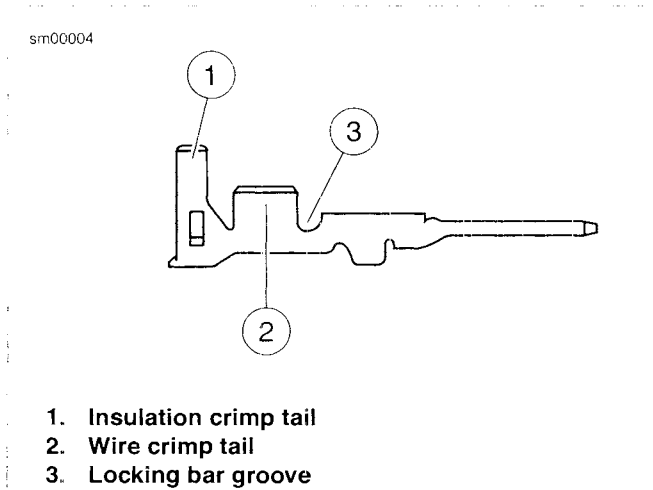
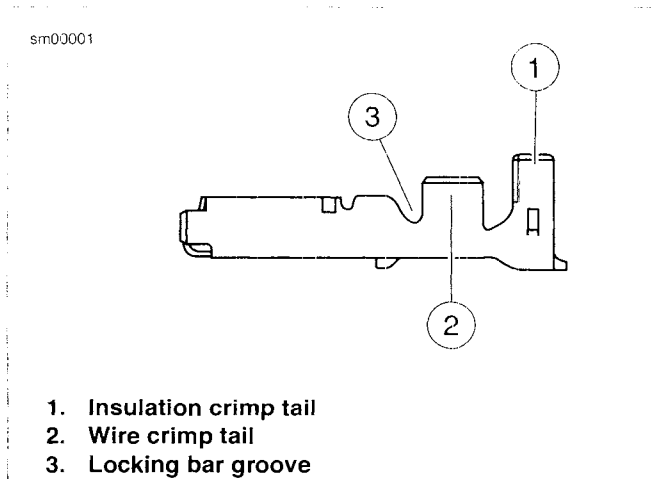

Figure A-4. AMP Multilock Connector: Pin Terminal
Figure A-5. AMP Multilock Connector: Socket Terminal
- See Figure A-4 and Figure A-5. Select the pin/socket terminals from the parts catalog and identify the insulation crimp tails (1) and the wire crimp tails (2) and the groove for the crimp tool locking bar (3).
See Figure A-4 and Figure A-5. Hold the terminal with the insulation crimp tail (1) facing up. The tool will hold the terminal by the locking bar groove (3) and crimp the wire crimp tail (2) around the bare wire of the stripped lead and the insulation crimp tail around the insulation.